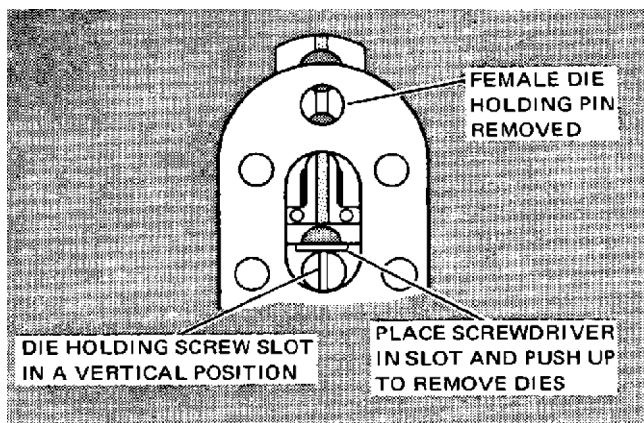

Figure 6
2. Close handles until male die holding screw is visible. See Figure 6.
3. Turn male die holding screw slot in a vertical position. See Figure 6.
2. Depress take-up lever until male die holding screw is visible. See Figure 6.
3. With take-up lever depressed, turn male die holding screw slot in a vertical position. See Figure 6.